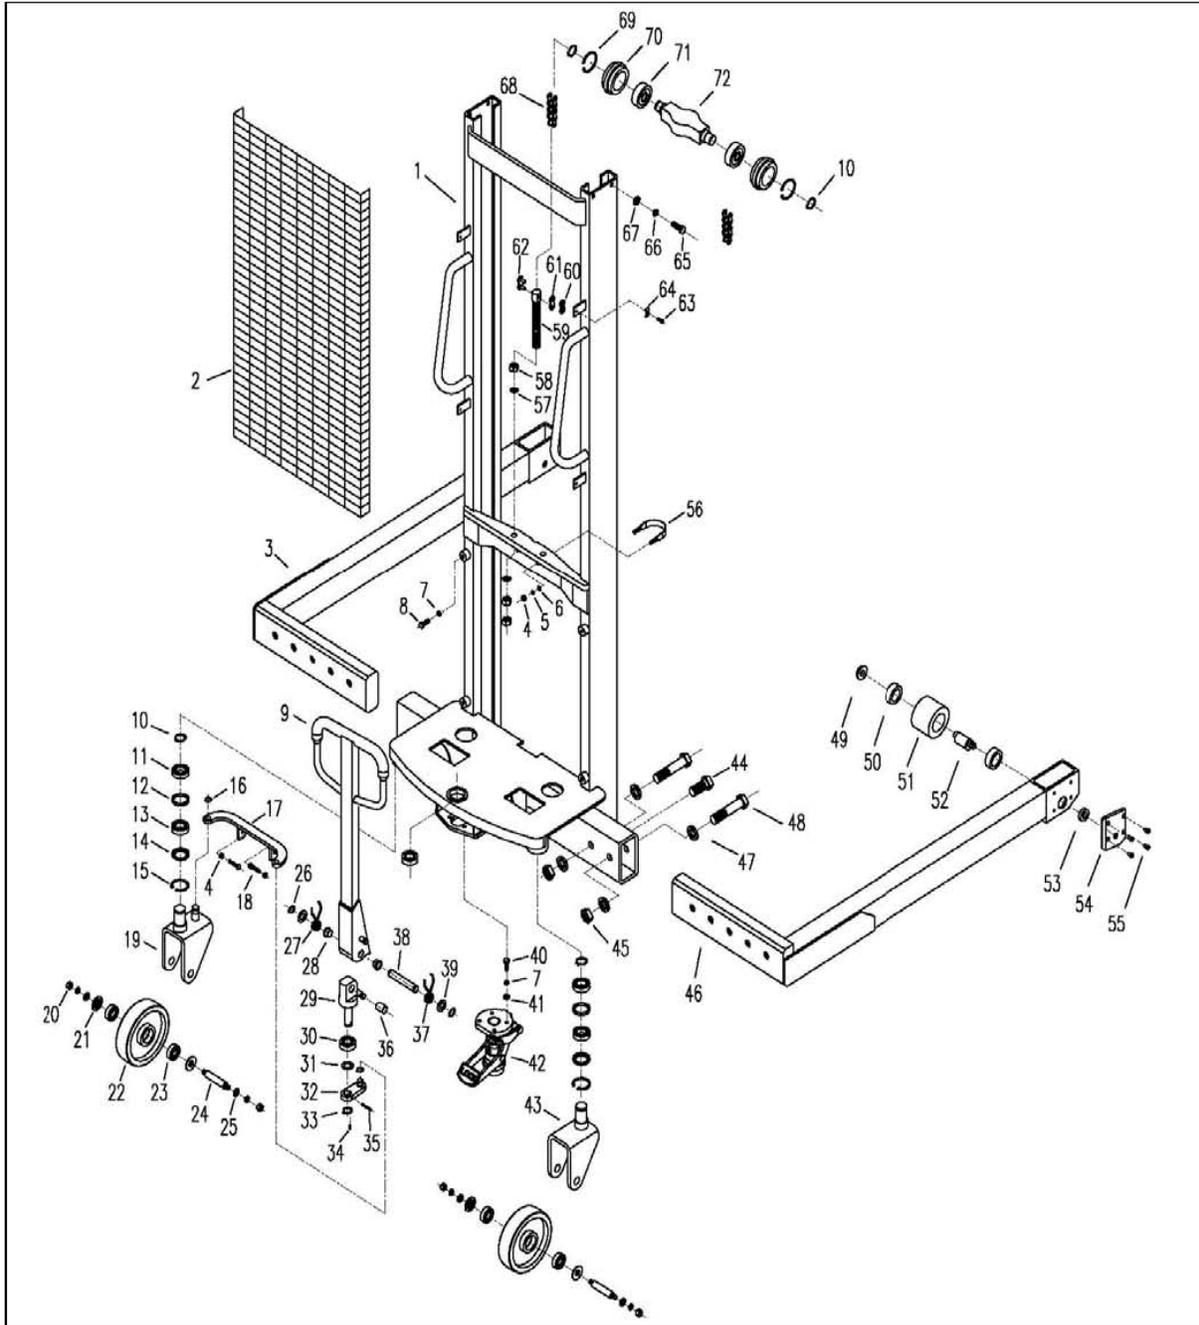

Figure 8-1 Frame (63 Inch Lift - 98 and 118 Inch Lift Similar)
4. Remove screws (55, Figure 8-1) and plate (54).
5. Remove spacer (53), axle (52) and load wheel (51).
6. Remove bearings (50) from load wheel (51).
6. Remove nut (20, Figure 8-1), washers (25) and thrust washers (21).
7. Remove axle (24) and caster wheel (22).
8. Remove bearings (23) from caster wheel (22).